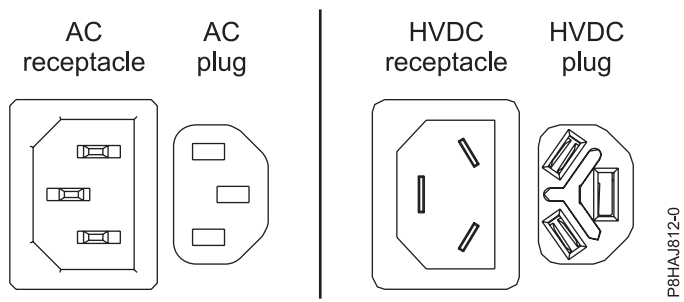
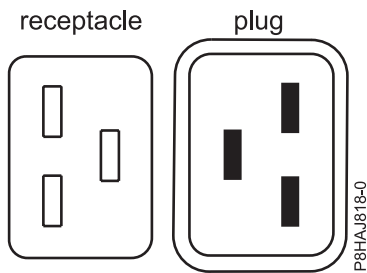
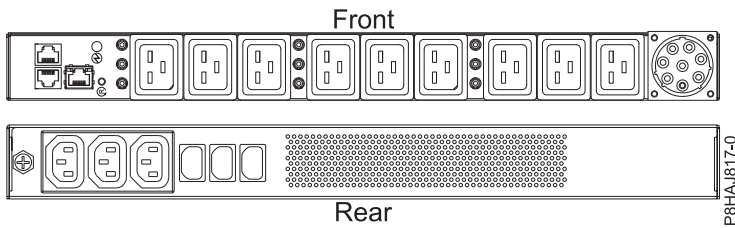

Figure 43. AC and HVDC connectors
Figure 44. Connectors for the 8408-44E system
Figure 45. PDU for the 8408-44E system
Figure 43 shows the supported alternate current (AC) and high voltage direct current (HVDC) connectors. Figure 44 and Figure 45 show the supported connectors and power distribution unit (PDU) for 8408-44E.